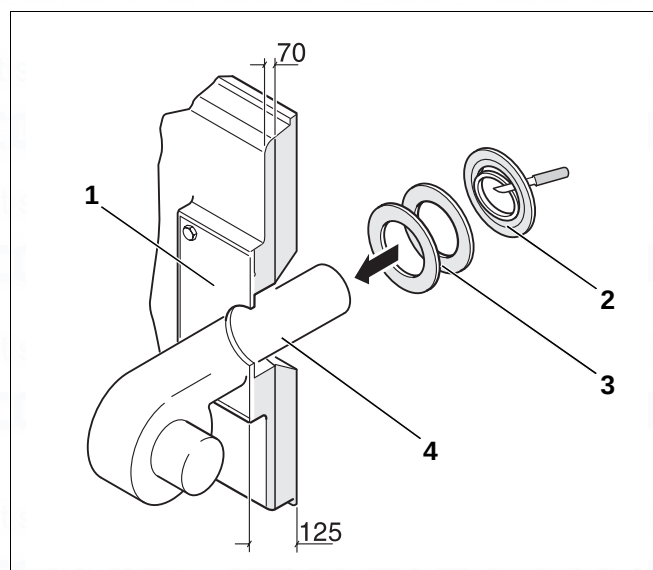

Fig. 28 Installation – burner
- ▶ Drill or cut the burner plate (Fig. 28, [1]) to match the required blast tube diameter (max. dia. 270 mm).
- ▶ Cut out insulating rings to match the blast tube diameter (Fig. 28, [2]).
- ▶ Fill the remaining gap between burner door lagging and blast tube (Fig. 28, [4]) with the modified insulation rings (Fig. 28, [3]).